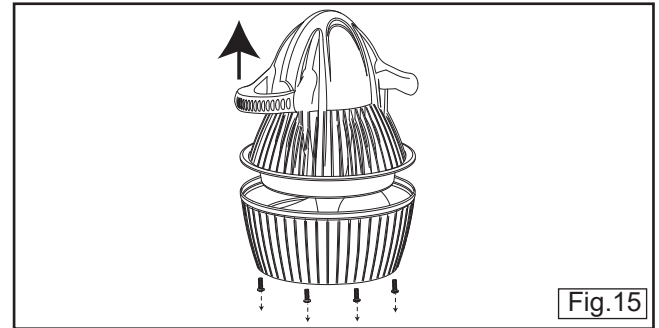

Fig. 15
4. Unscrew rear grille screw and remove Nozzle (see fig. 15).